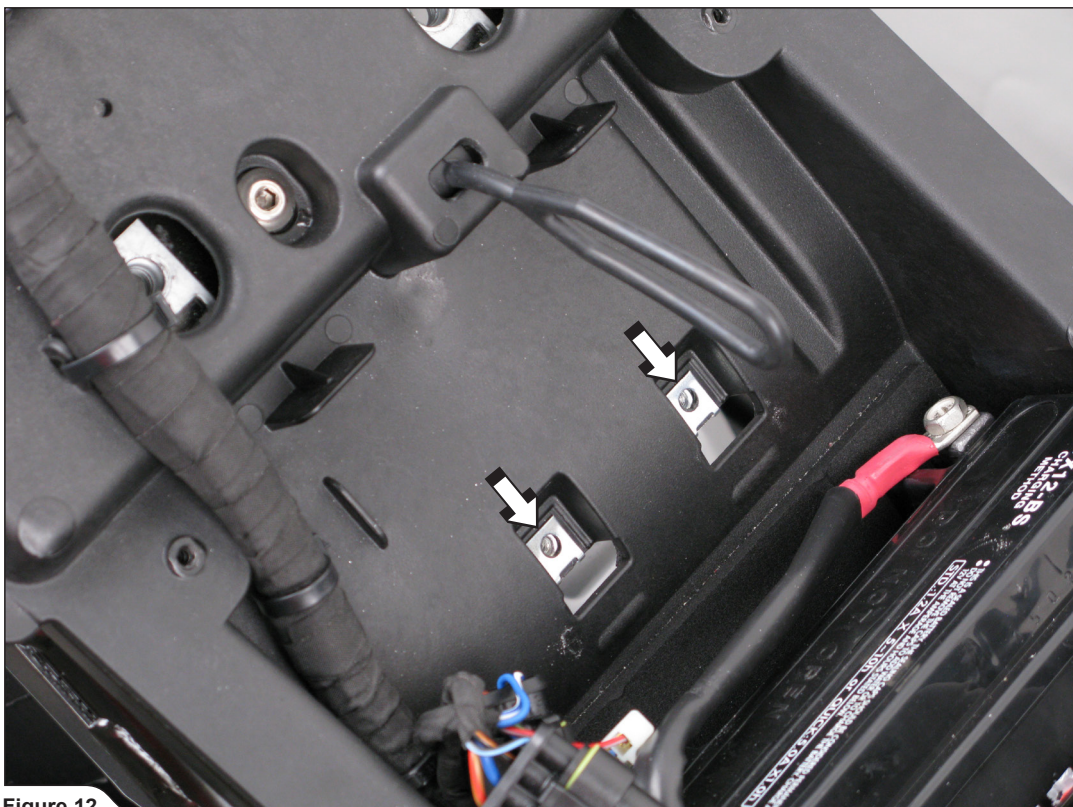

Figure 12
10. For optional mudguard only: remove the two marked press on nuts (Figure 12).